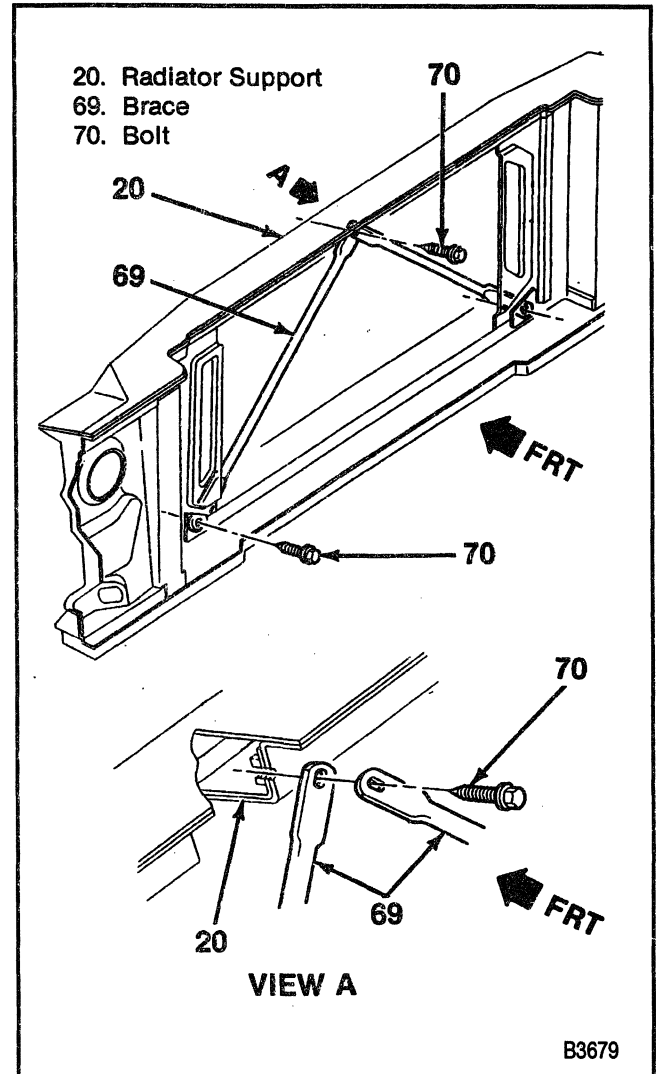

Figure 25—Radiator Support Braces
- 22. Support braces from the support (Figure 25).
- Place the top of the left brace between the support and the right brace (Figure 25).